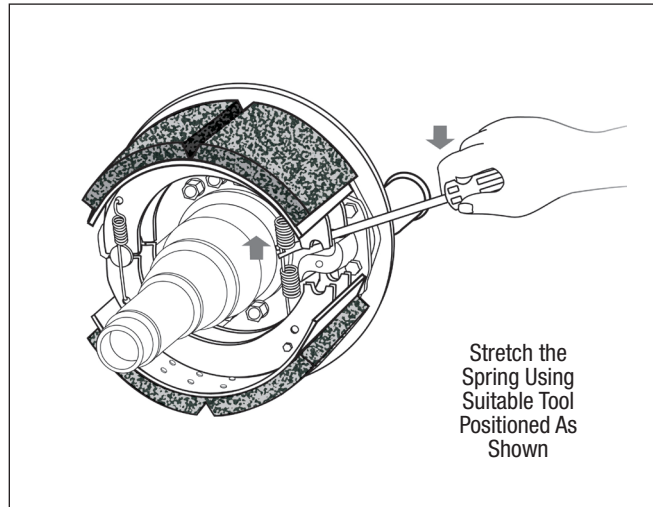

Figure 65 – Shoe Return Spring Installation
6. Install the shoe return spring. Ensure the return spring hooks face the rollers. Refer to Figure 65.